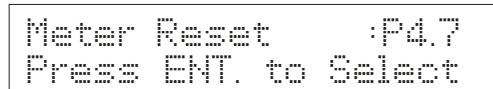

Figure 184
2. Use  $\Delta/MI$  key to scroll to program *Meter Reset: P4.7*. See **Figure 184**.